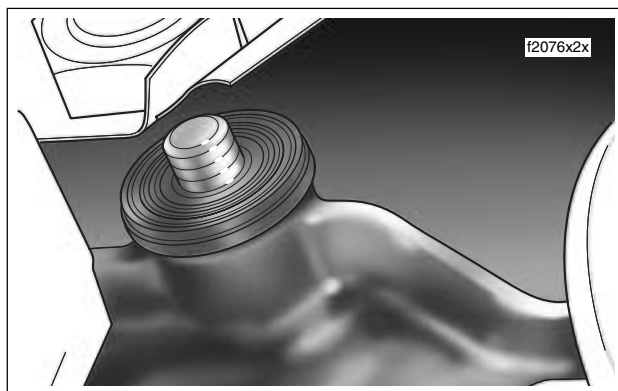

Figure 2-123. Remove Upper Bushing (Right Side)
5. Pull bushing from fork bracket bore and discard. See Figure 2-123.
10. Pull bushing from fork bracket bore and discard. See Figure 2-123.
4. Moving to top of upper fork bracket, insert bushing into bore fitting collar of bushing over lip of boss. See Figure 2-123.
10. Moving to top of upper fork bracket, insert bushing into bore fitting collar of bushing over lip of boss. See Figure 2-123.